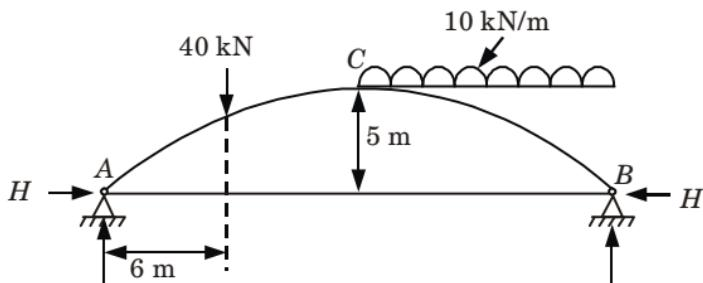

Fig. 11.
- a. A three hinged parabolic arch of span 30 m and central rise of 5 m. It is subjected to a concentrated load of 40 kN at 6 m from the left support Fig. 11.